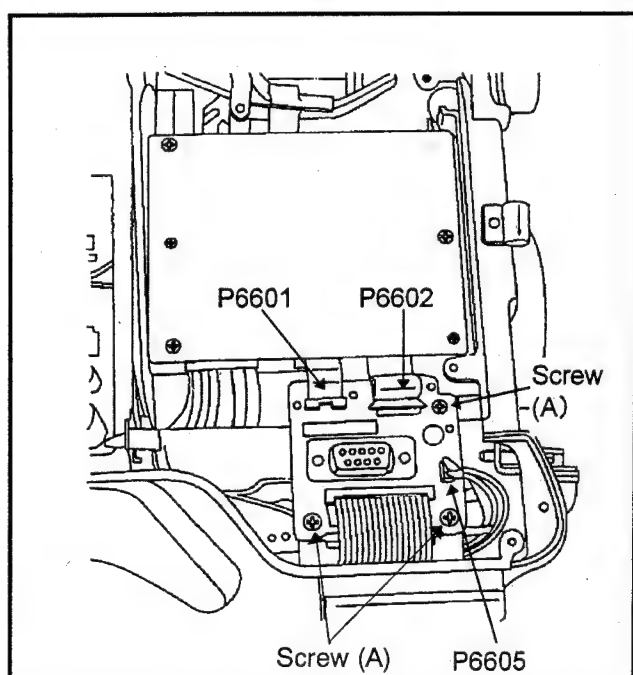

Fig. CCD1
2. Disconnect P6601, P6602 and P6605, unscrew 3 screws (A) on the TEST Connection C.B.A. (Fig. CCD1)